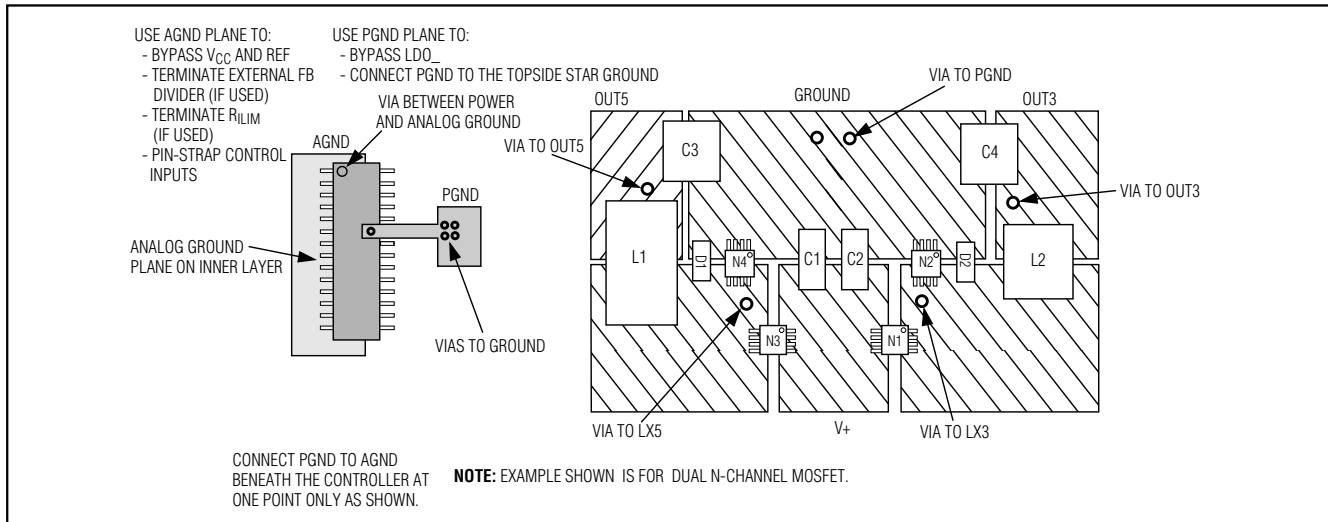

Figure 13. PC Board Layout Example
Careful PC board layout is critical to achieve minimal switching losses and clean, stable operation. This is especially true when multiple converters are on the same PC board where one circuit can affect the other. The switching power stages require particular attention (Figure 13). Refer to the MAX1999 Evaluation Kit data sheet for a specific layout example.
- 4) Make the DC-DC controller ground connections as follows: near the device, create a small analog ground plane. Connect the small analog ground plane to GND (Figure 13) and use the plane for the ground connection for the REF and V_{CC} bypass capacitors, FB dividers, and ILIM resistors (if any). Create another small ground island for PGND, and use the plane for the V+ bypass capacitor, placed very close to the device. Connect the AGND and PGND planes together at the GND pin of the device.